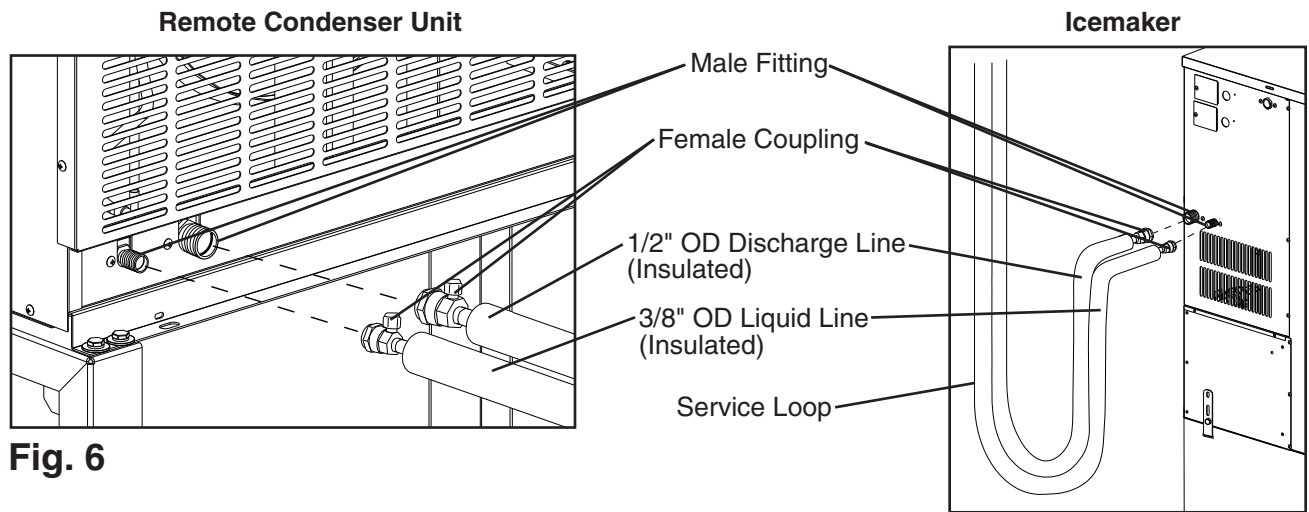

Fig. 6
- 1) Route the factory line set (1/2" OD discharge line and 3/8" OD liquid line) from the remote condenser unit to the icemaker. Leave a service loop behind the icemaker to allow the icemaker to be pulled out for service. See Fig. 6. Factory fabricated line sets are precharged and do not need to be evacuated.
- 1) Route a 1/2" OD copper tube discharge line and a 3/8" OD copper tube liquid line between the remote condenser unit and the icemaker. Leave a service loop behind the icemaker to allow the icemaker to be pulled out for service. See Fig. 6.